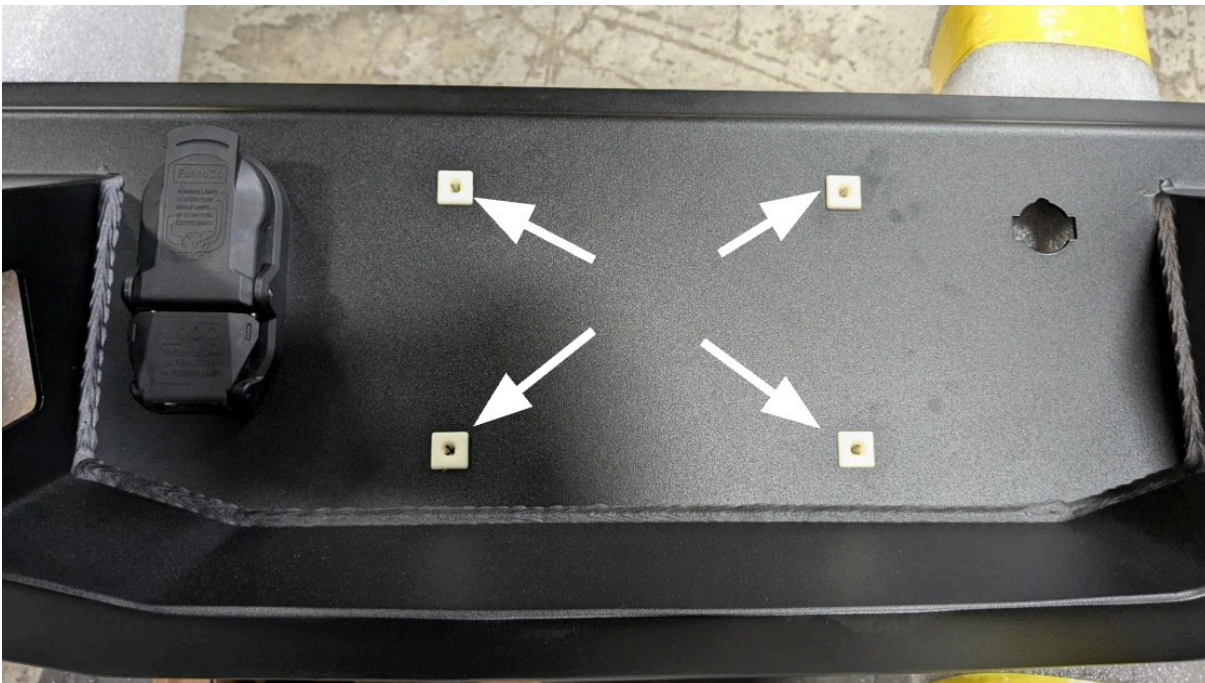

Figure 11
9. Install the four provided license plate nuts into the square cutouts in the center face of the bumper shell. (Figure 11)